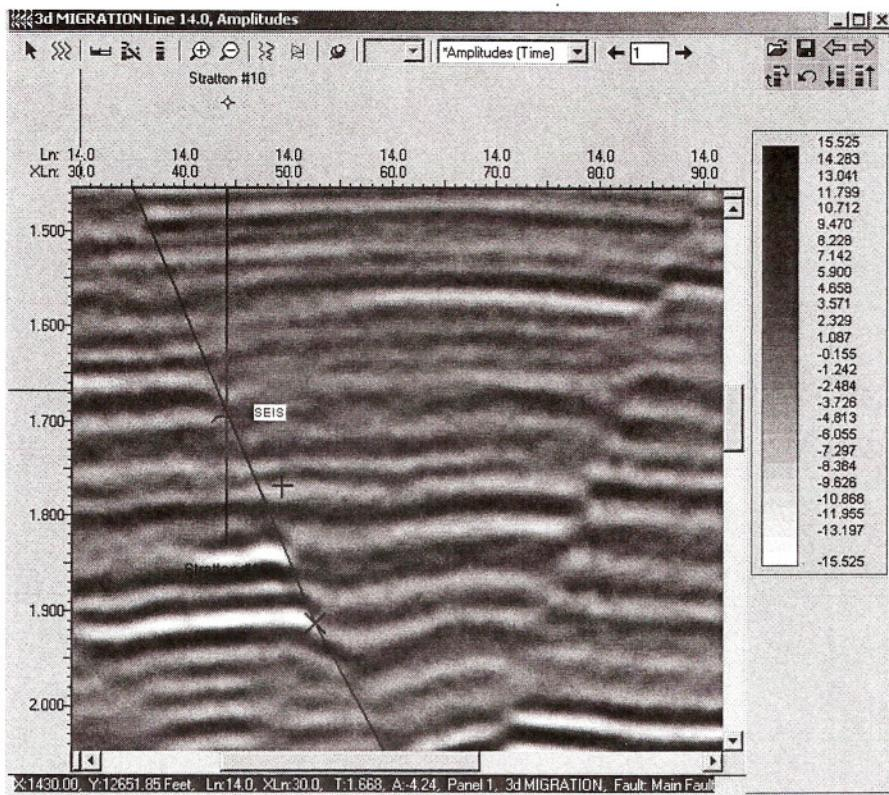

Figure 3.13 — SEIS Fault Cut displayed on Stratton #10 well on Inline 14
21. Click **OK**. The Fault Cut is displayed on Figure 3.13.